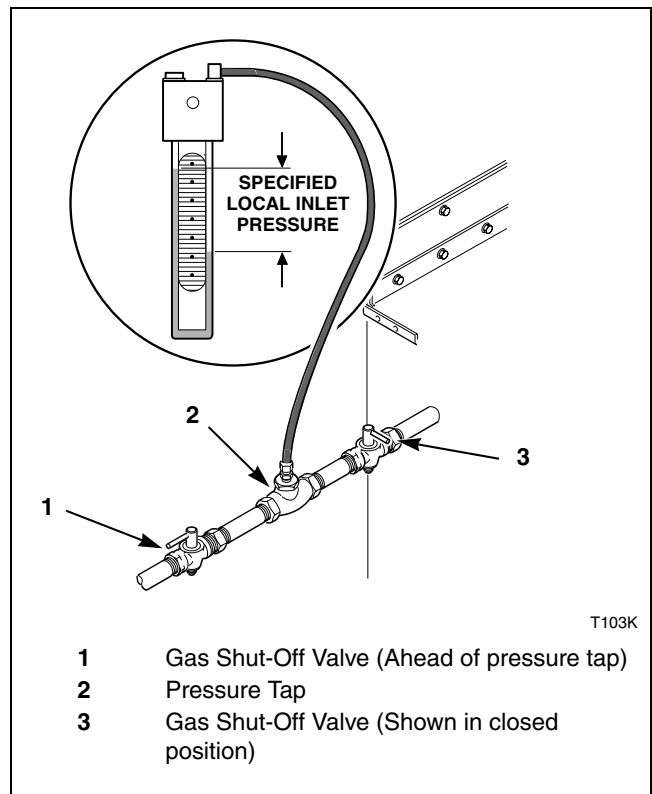

Figure 5
- a. Disconnect electrical power from tumbler. Close gas shut-off valve to tumbler. Refer to *Figure 5*.
1. Disconnect electrical power from tumbler. Close gas shut-off valve to tumbler. Refer to *Figure 5*.